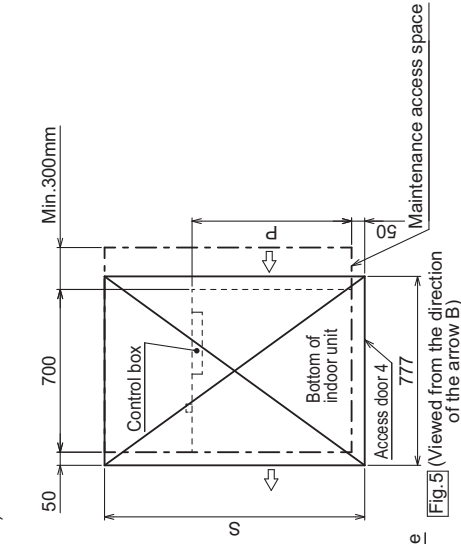

Fig.5 (Viewed from the direction of the arrow B)
- Create access door 4 below the control box and the unit as shown in Fig.5.
· Create access door 4 below the control box and the unit as shown in Fig.5.
[Fig.5] (Viewed from the direction of the arrow B)